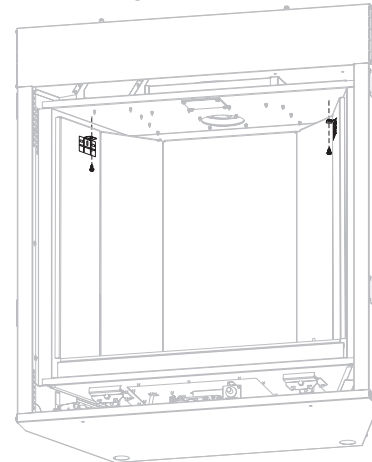

Figure 5
5. Remove the two screws securing the liner brackets to the firebox as shown in Figure 5. (If liner is installed)
15. Replace liner and bracket if removed in steps 5 and 6. **See Figures 5 & 6.**